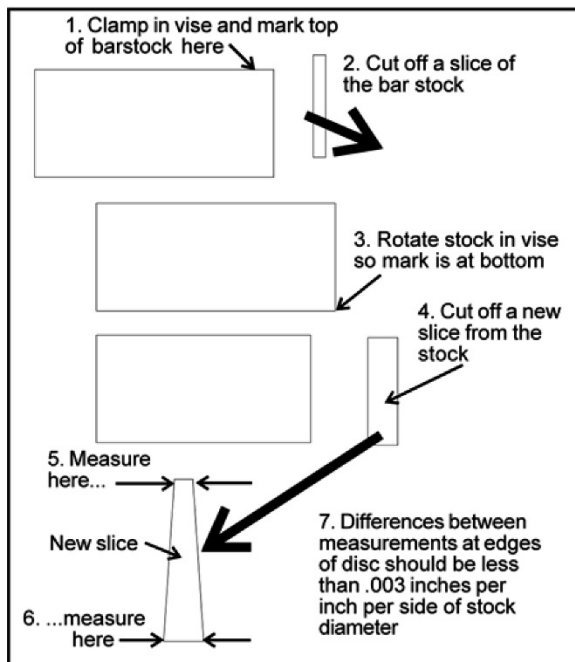

Figure 8-11
- 1) With bar stock securely clamped in vise, make a cut through the bar stock. (See Figure 8-11.)